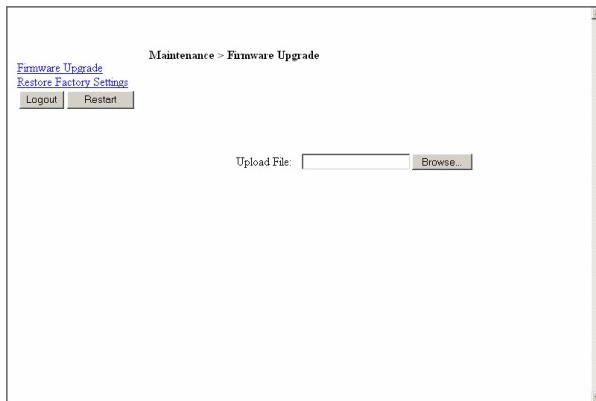

Figure 30 Safe mode menu
4. Type username: **admin**, password: **SAFemode**. (Case sensitive). (This username and password works only in Safe mode). A menu appears, see Figure 30.